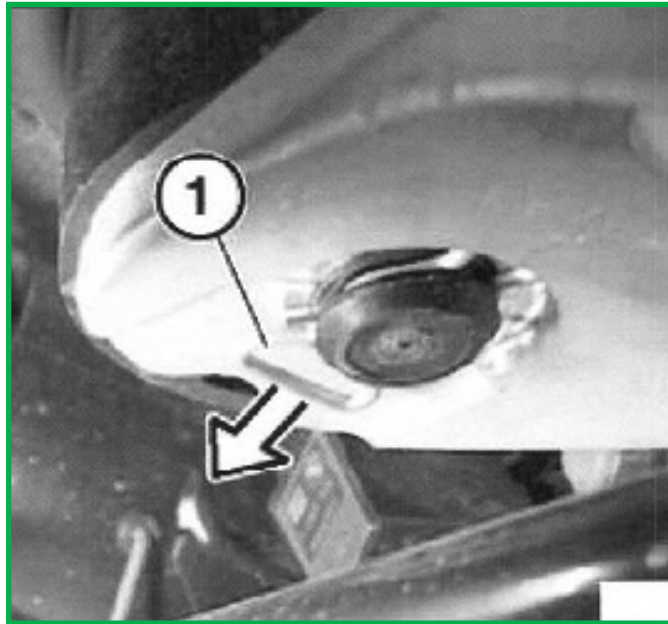

FIGURE 20
7. Detach locking clip (1) from the bottom of the air spring mount and remove air spring. (Figure 20)